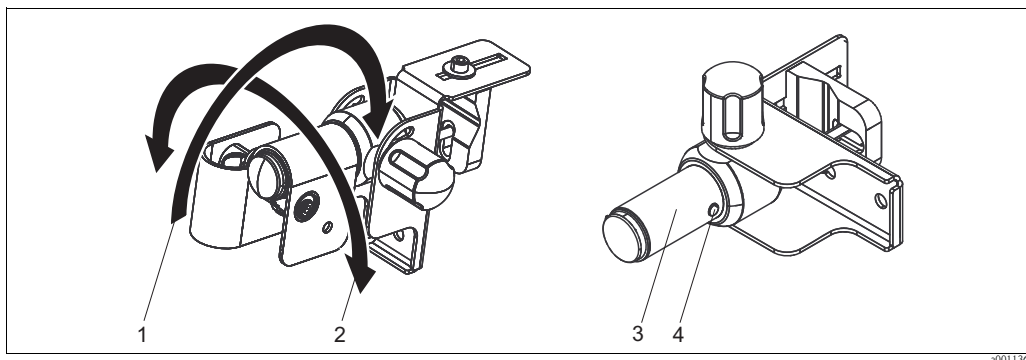

Fig. 12: Specifying the swing axis
You can determine the swinging direction (swing axis) at the pendulum holder by blocking the rotating sleeve (→ Fig. 12, item 3) (item 1) or not blocking the rotating sleeve (item 2).